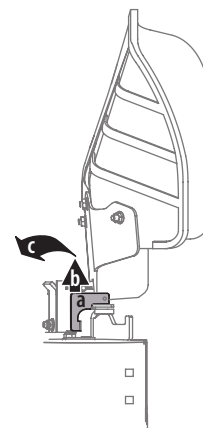

Figure 14
1. The chute is shipped attached and with a stop bracket holding the chute upright. The stop bracket must be removed prior to operating the tractor. See Figure 14.